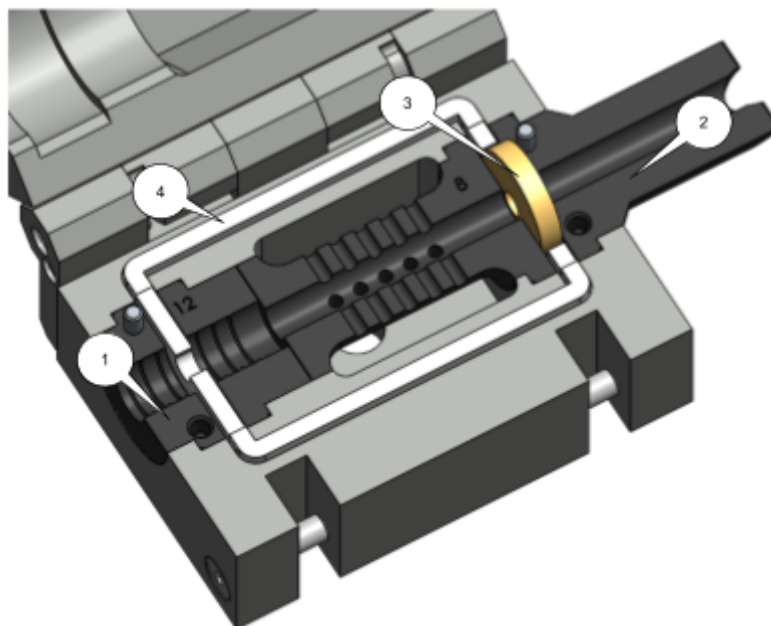

Fig. 6b The inside of the blowing head NEXT for microducts
1. Fix the protective tube into which the cable is to be blown in the head with a replaceable clamping sleeve (1, fig. 6b). The microduct seal is integrated with the microduct mounting sleeve. Select the clamping sleeve for the outer diameter of the microduct.
2. Fix the cable insertion sleeve (2, fig. 6b) to the outer diameter of the microcable and secure it in the head.
3. Fix the cable seal (3, fig. 6b) to the outer diameter of the cable and secure it in the cable insertion sleeve.
4. Make sure that the linear seal (4, fig. 6b) is positioned correctly on both sides in the groove.